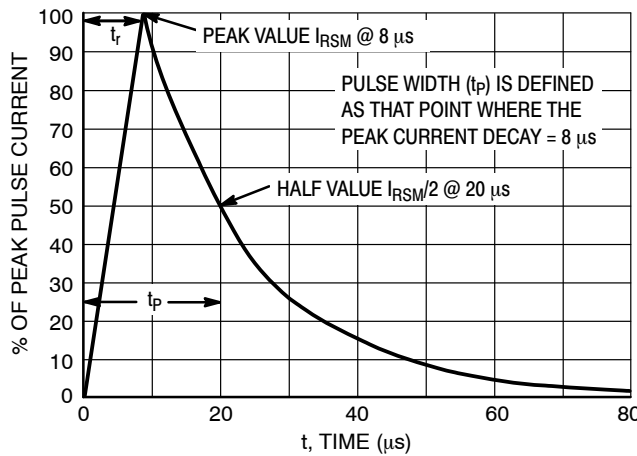

Figure 12. 8 X 20 μs Pulse Waveform
- Non-repetitive current pulse at T_A = 25°C, per IEC61000-4-5 waveform. (See Figure 12)